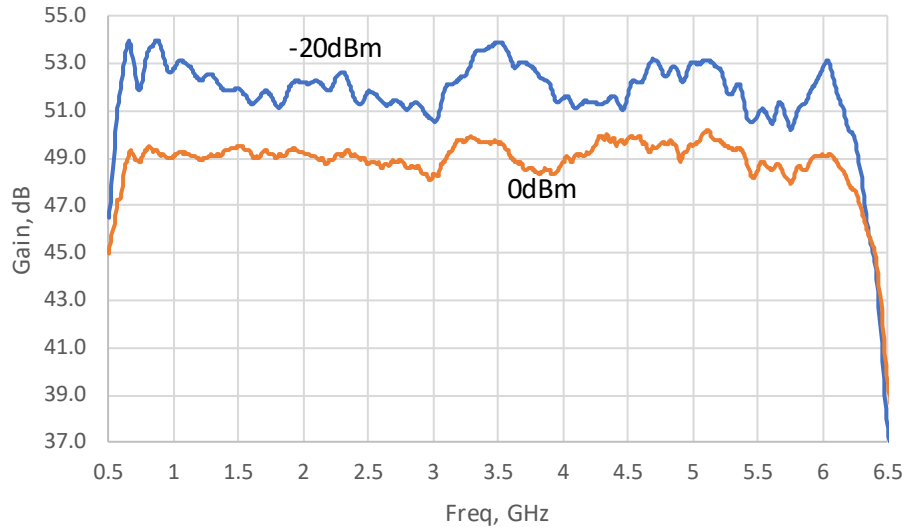

Figure 4-1. Typical Response at 0 dBm Input and -20dBm Input
1. The Lo Band (0.7-6.0 GHz) typical gain response at 0 dBm input and -20 dBm input is shown in Figure 4-1. The actual gain may vary considerably from that shown in Figure 4-1 but should be ≥ 47 dB at 0dBm input and ≥ 50 dB at -20 dBm input. *NOTE: If the overall gain is low, the amplifier chain can be separated.*